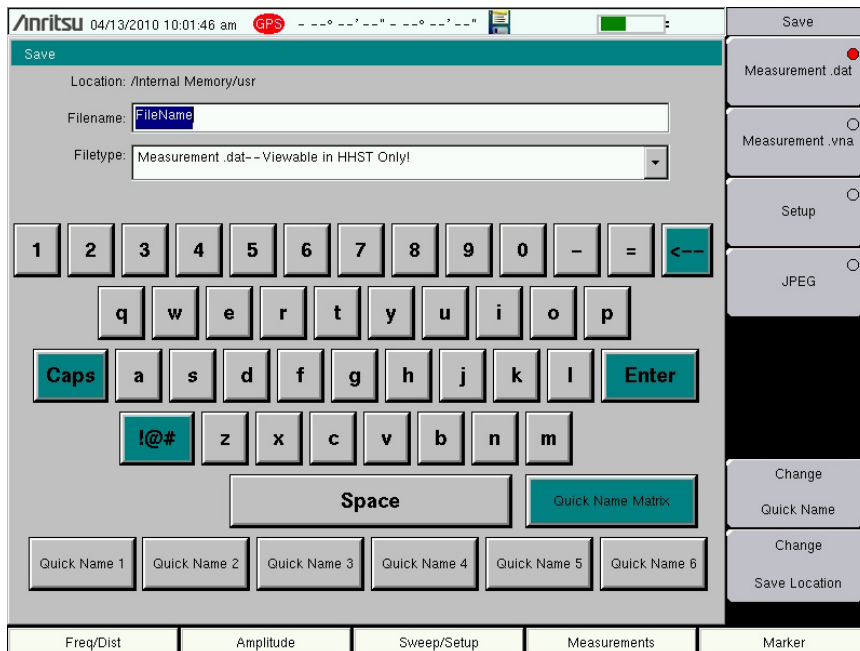
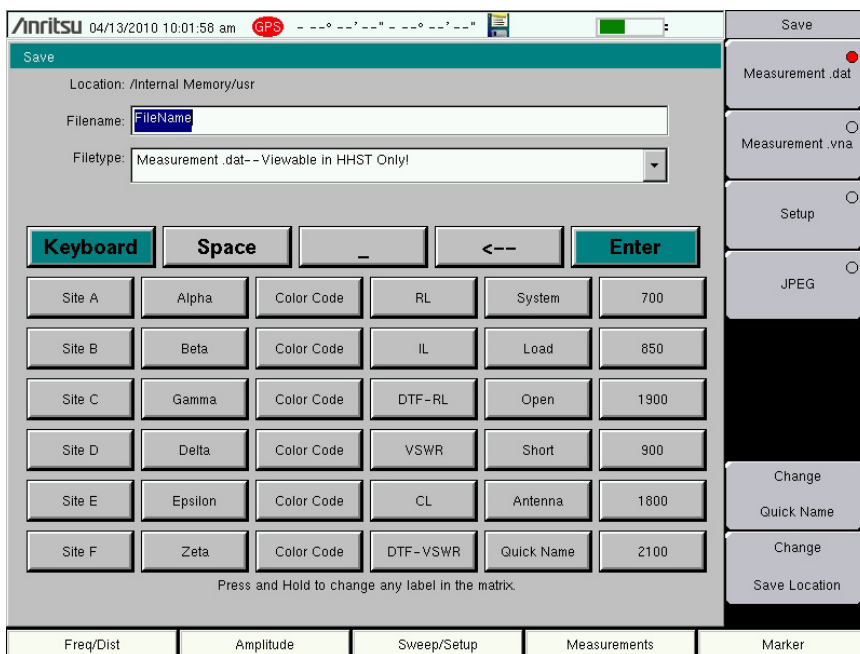

Figure 4-1. Save Dialog Box
Figure 4-2. Quick Name Matrix
The **Save Measurement As** key is used to quickly save measurements with a specific file name. The Site Master saves the measurement with the latest file name that was used to save a measurement and with a number that is automatically incremented and appended to the end of the file name. For instance, if the last measurement was saved with the name **System Return Loss**, **Save Measurement As** saves the next measurement as **System Return Loss_#1**, **System Return Loss_#2** etc. The file name used can be changed using the **Save** dialog box (Figure 4-1).
The save dialog box (Figure 4-1) is used to store files on the internal memory or an external flash drive. The file type, file name, and save location are set starting with this display. See “Save Menu” on page 4-9 and “Save Location Menu” on page 4-10 for details.
Quick Name keys below the keyboard in Figure 4-1 allow users to enter quick names for frequently used file measurement names. To edit the keys, press the **Shift** key, then the **File** (7) key. Press **Save** then the **Change Quick Name** key, select one of the **Quick Names** for editing, press **Enter** and enter the new name for the key. Press **Enter** again and the new name will be displayed on the key.
The Quick Name Matrix button displays in the Cable and Antenna Analyzer measurement mode. The Quick Name Matrix button allows contractors and field personnel to save time entering file names when they are making measurements. Using the touchscreen, press the Quick Name Matrix key shown in Figure 4-1 to open the Quick Name Matrix shown in Figure 4-2.
The Keyboard key returns to the Save Dialog Box (Figure 4-1).